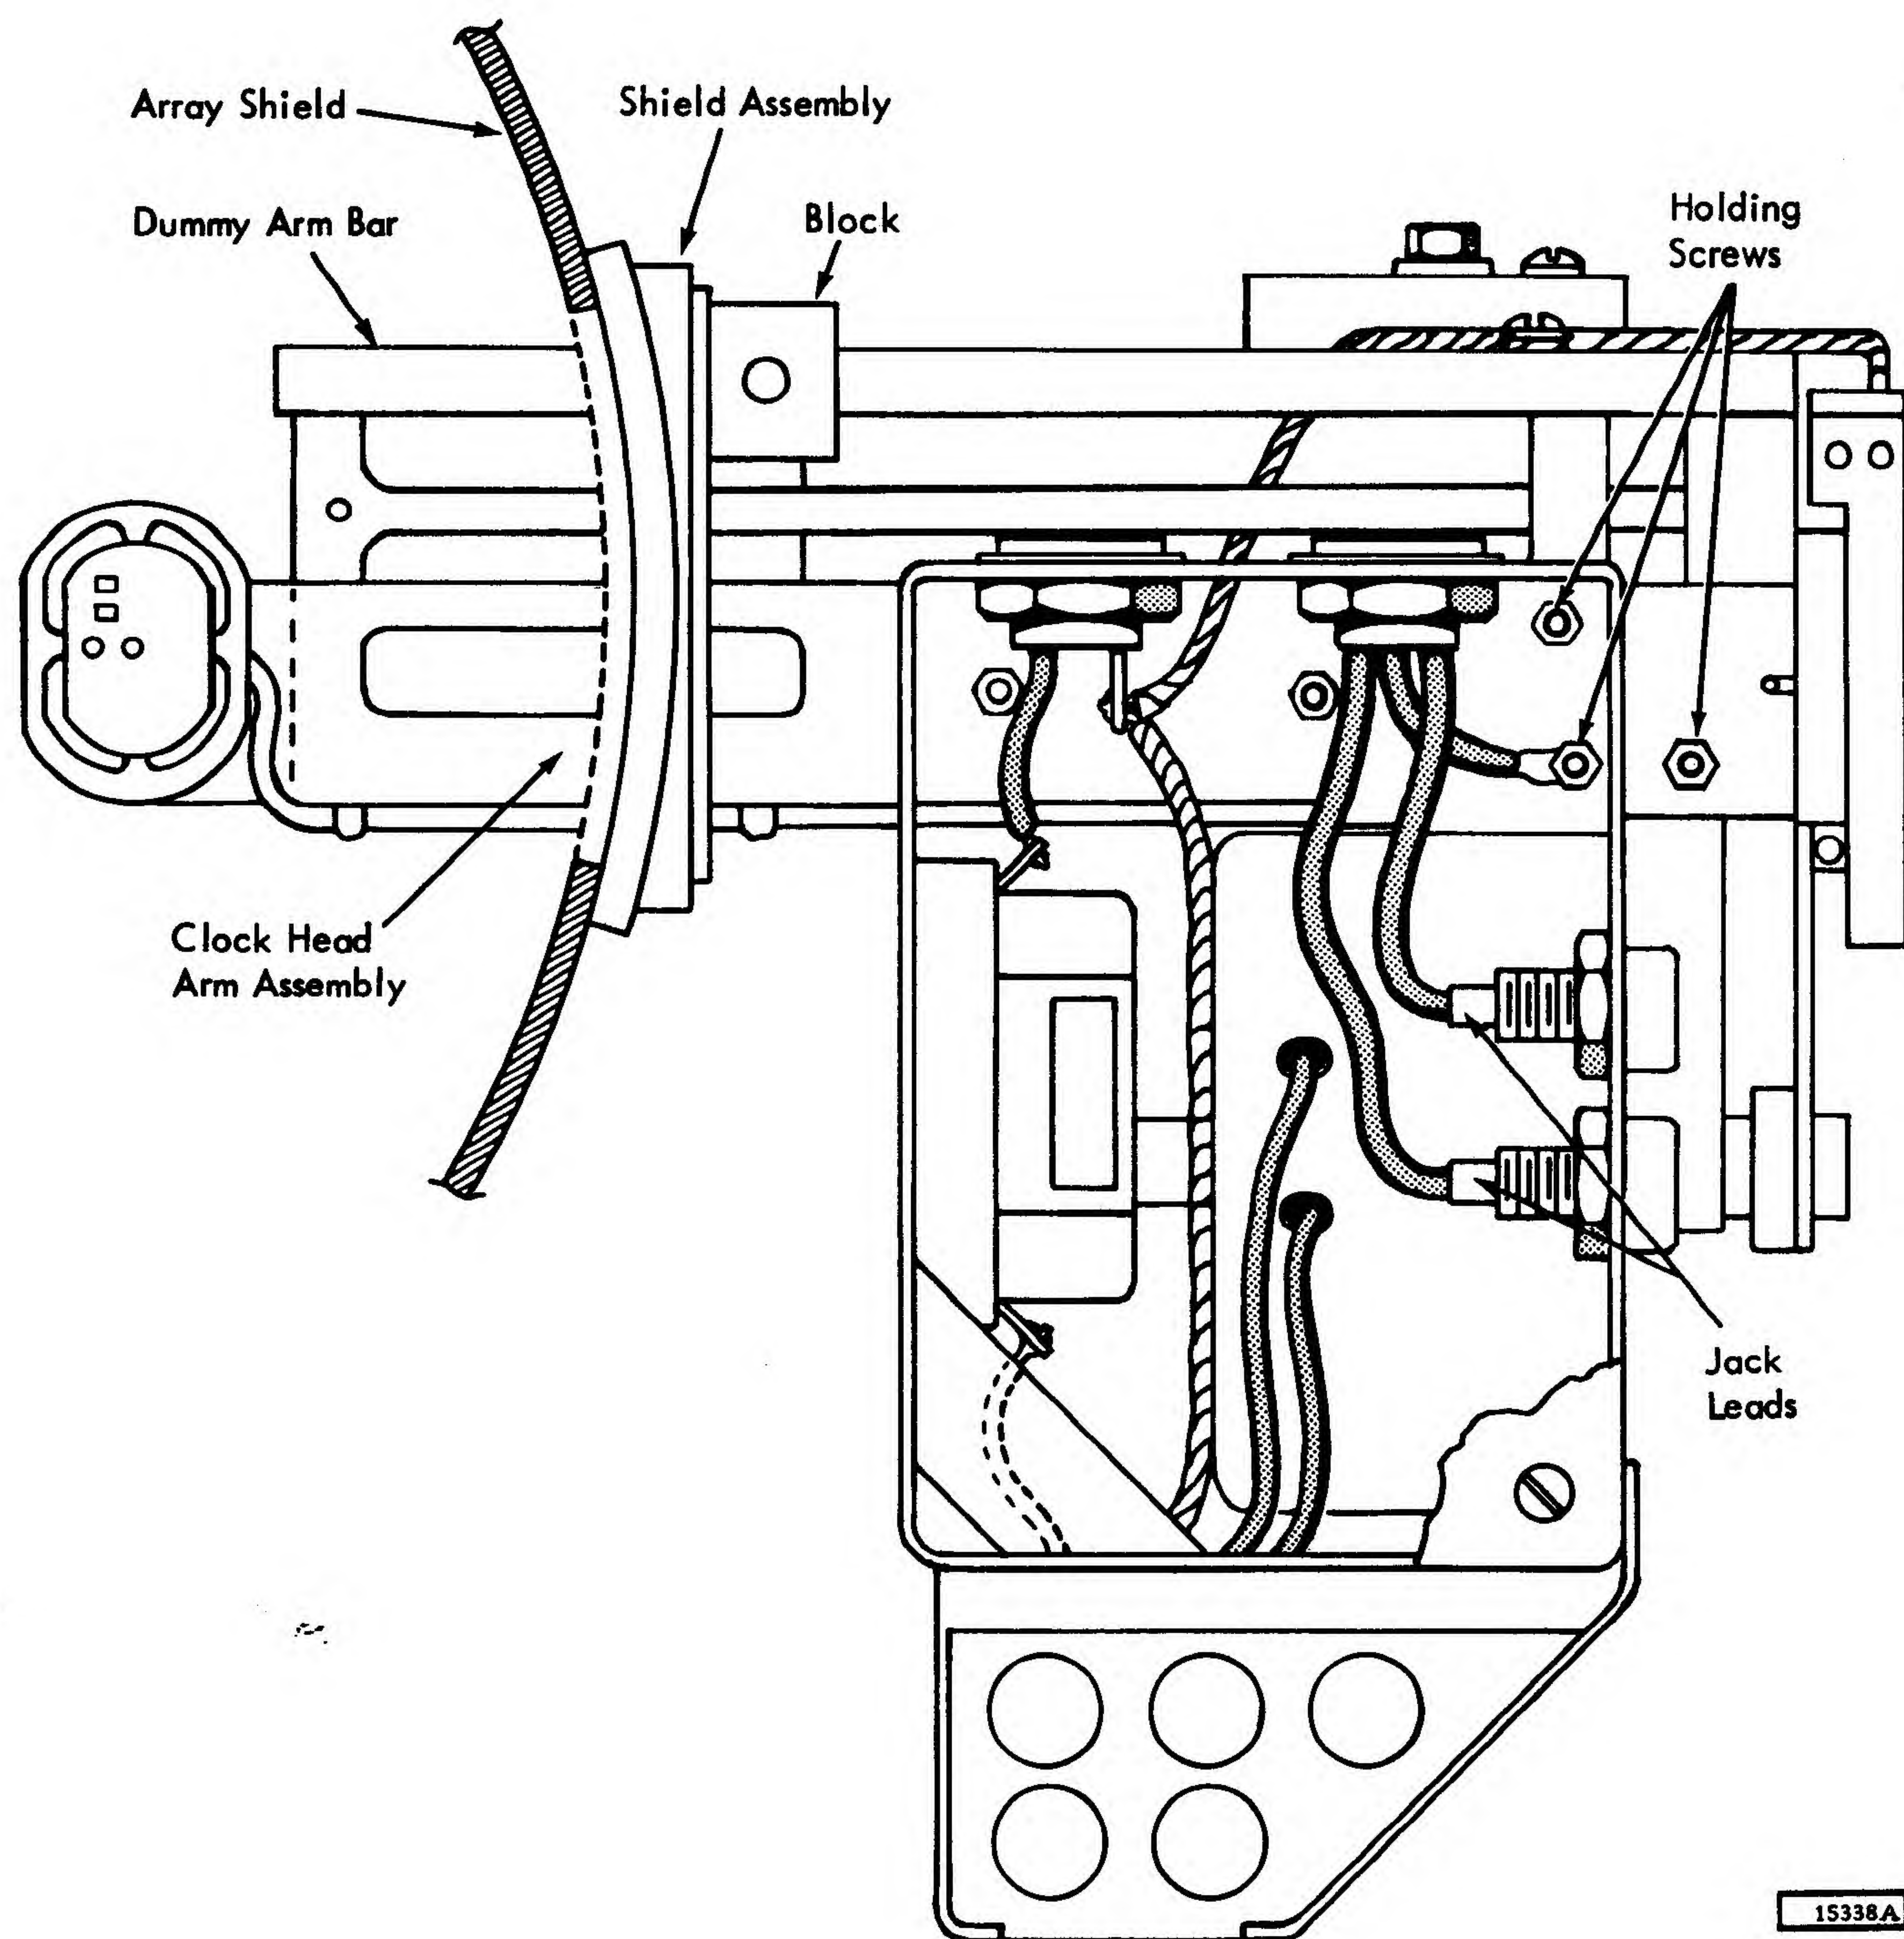

Figure 4-27. Clock Head-Arm Assembly
3. Remove seal assembly (Figure 4-27).
4. Mount shield assembly retaining plate and block on dummy bar as shown in Figure 4-27. After full contact is made with shield, slide retaining plate forward approximately  $1/16$ -inch and lock in place.
#### 4.10 CLOCK-HEAD ARM ASSEMBLY (Figure 4-27)
6. Mount shield assembly (Figure 4-27) according to procedures in section 4.3.4.